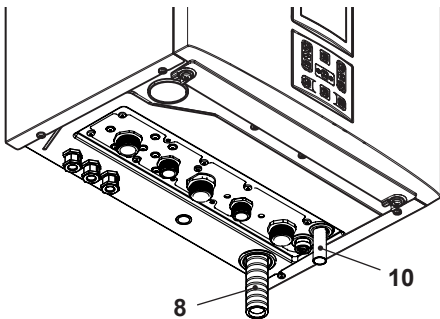

Fig. 6.4
- Connect the pipe 10 (Fig. 6.4) from the pressure relief valve to the safety discharge pipework.
- Fit the condensate drain 8 (Fig. 6.4) in to the drainage pipework.